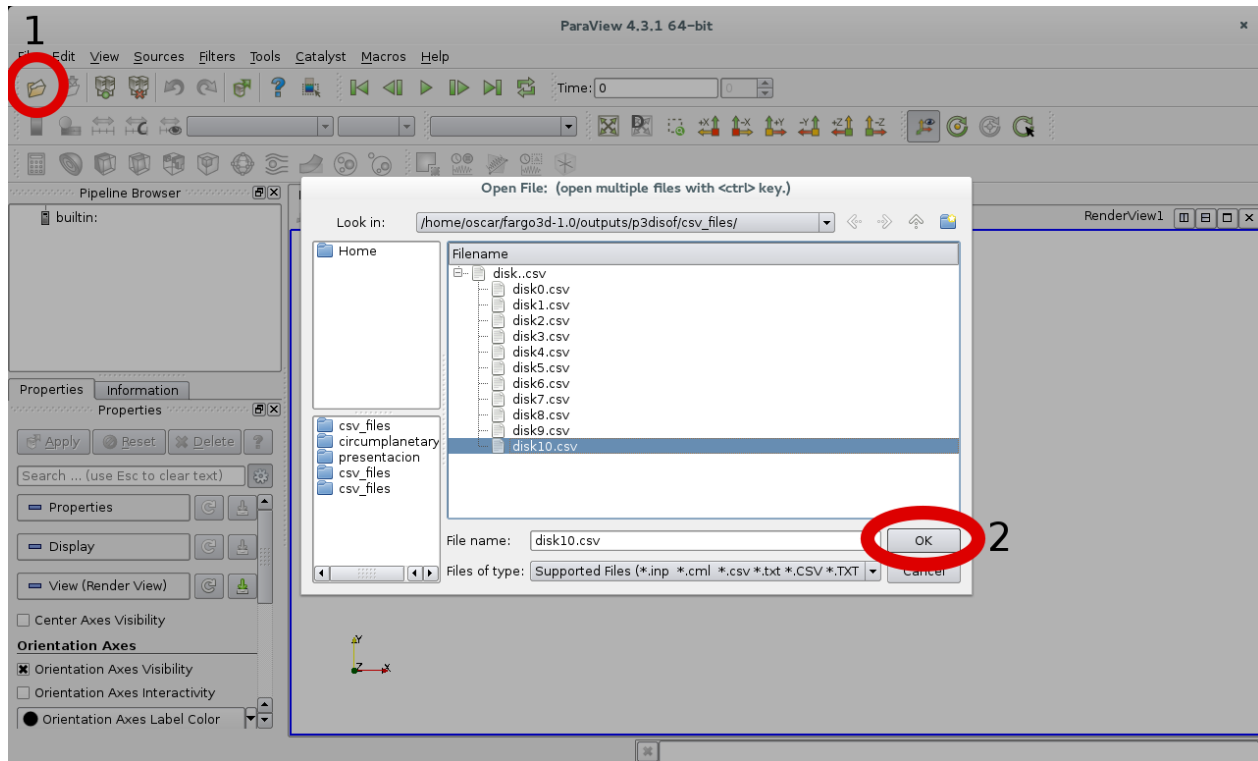

Figure A.1: 3D visualization with Paraview. Steps 1-2.
The visual version of Paraview will start. To understand better how to visualize the data, follow the next steps following figures A.1, A.2, A.3, A.4, A.5, A.6 and the numbers labeled there in.
1. Open the file manager clicking on the button marked in figure A.1.